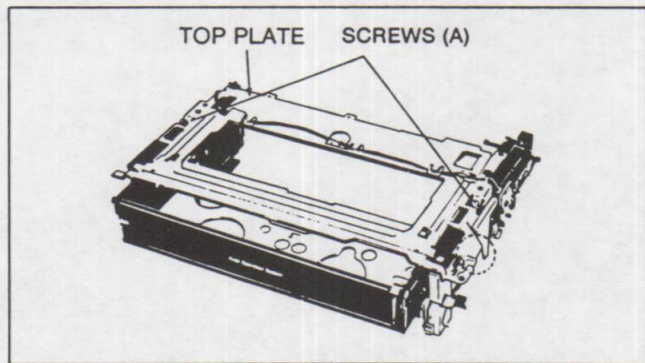

Fig. A21
2. Remove the 2 screws (A) as shown in Fig.A21.
10. Reinstall the top plate as just the reverse way of item 3, Fig.A21.